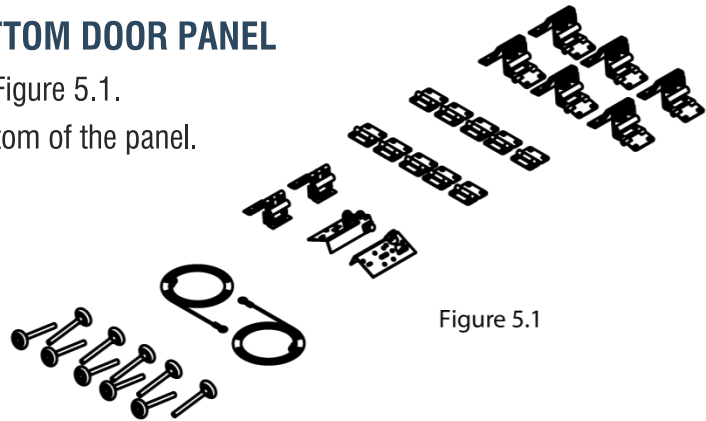

Figure 5.1
- Ensure you have all the components as shown in Figure 5.1.